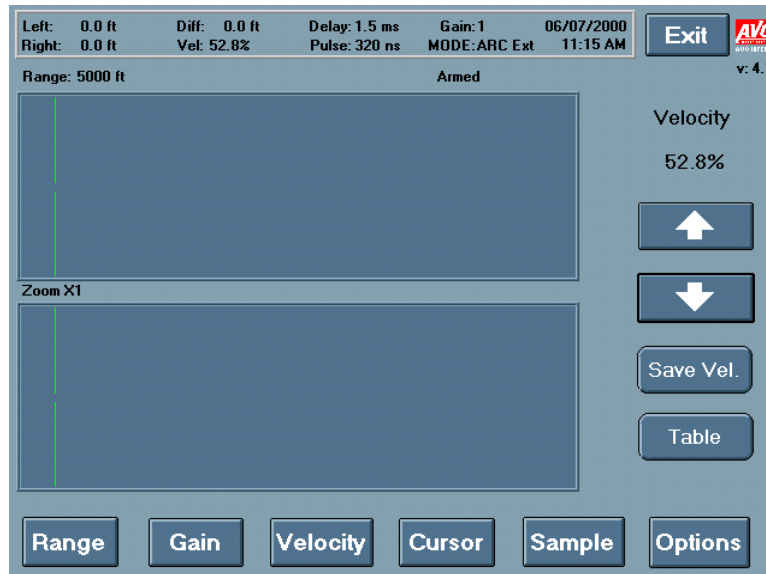

Figure 6-17b Velocity screen (ARC Extended Mode)
When operating in the ARC Extended mode, TDR mode, and SURGE mode, you can access an additional feature from the Velocity screen (Figure 6-17b):
- To return to the Velocity screen (Figure 6-17b), press **Back**.